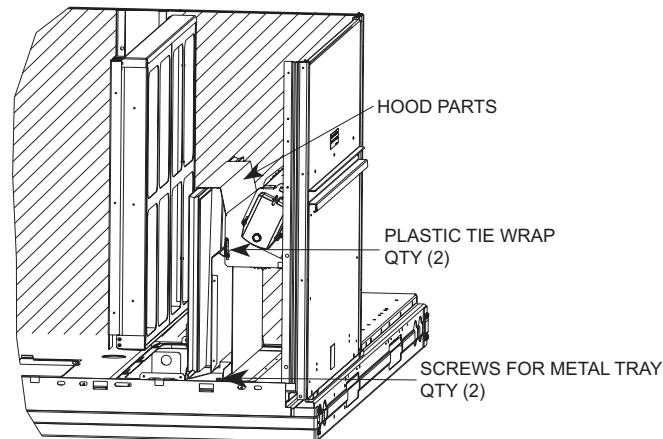

Fig. 14 — Economizer Hood Parts Location
3. Locate the 2 screws holding the metal tray to the basepan and remove. Locate and cut the 2 plastic tie-wraps securing the assembly to the damper. (See Fig. 14.) Be careful to not damage any wiring or cut tie-wraps securing any wiring.